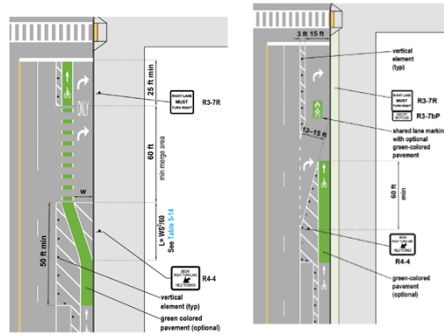
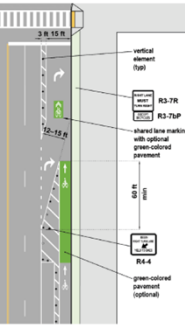

Figure 7-20: Angled Crossing Mixing Zone with Bike Lane
Figure 7-21: Angled Crossing Mixing Zone with Shared Lane
- Highlight the conflict area with a green-colored pavement and dotted bike lane markings (see Figure 7-20), as necessary, or shared lane markings (see Figure 7-21).